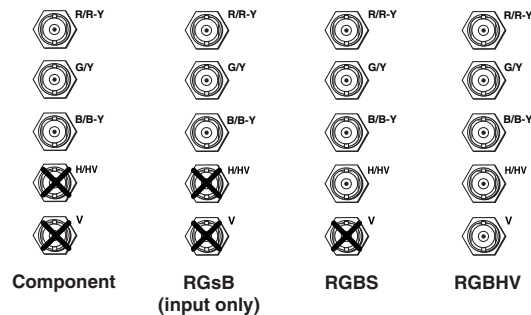

Figure 2-3 — Input connections
1. Use BNC connectors to attach cables from the input devices to the switcher. Figure 2-3 shows the connection options.